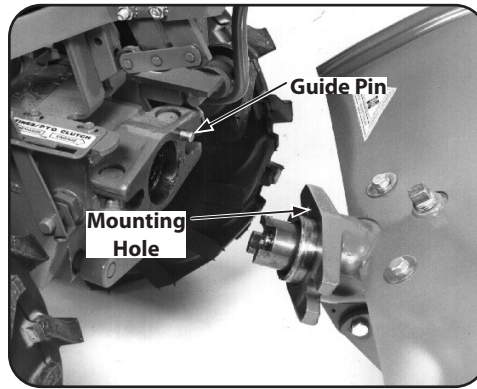

Figure 4-24
10. The guide pin on the power unit will slide out of the guide hole in the tine attachment. See Figure 4-24.
4. Carefully align the guide pin on the PTO Power Unit with the alignment hole in the tine attachment and bring the two units together. See Figure 4-24.